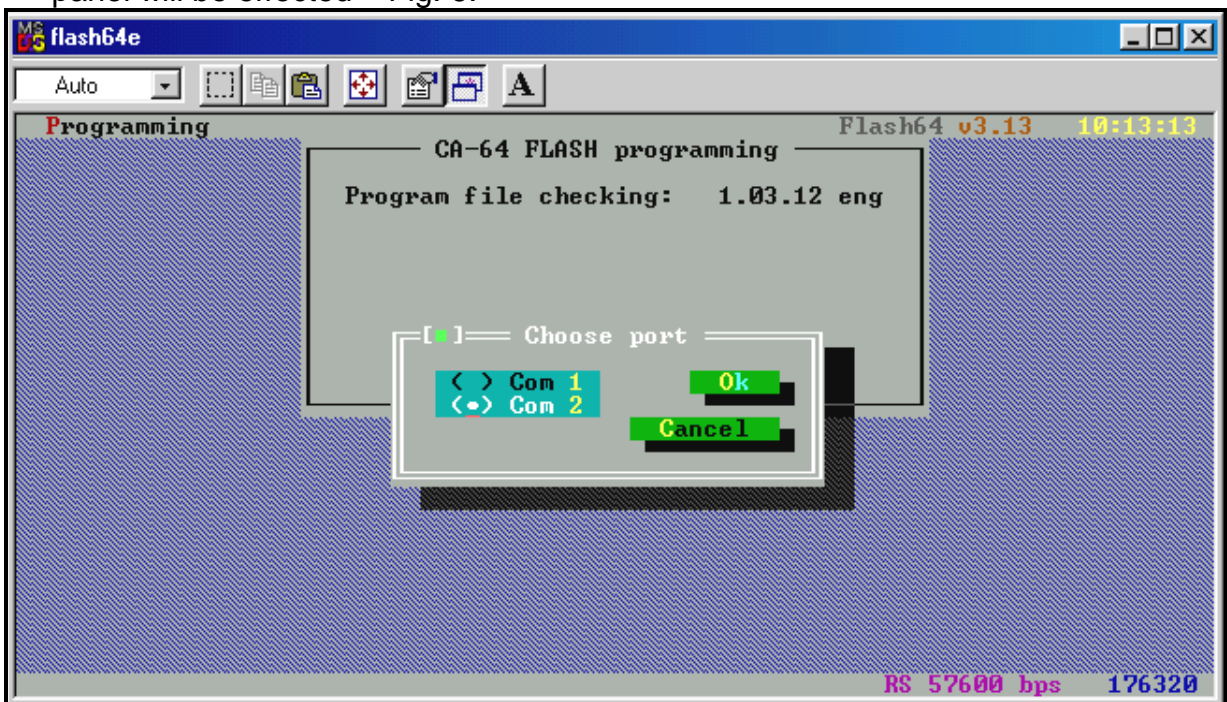

Fig. 6
- Then, choose a suitable port through which communication with the alarm control panel will be effected – Fig. 6.